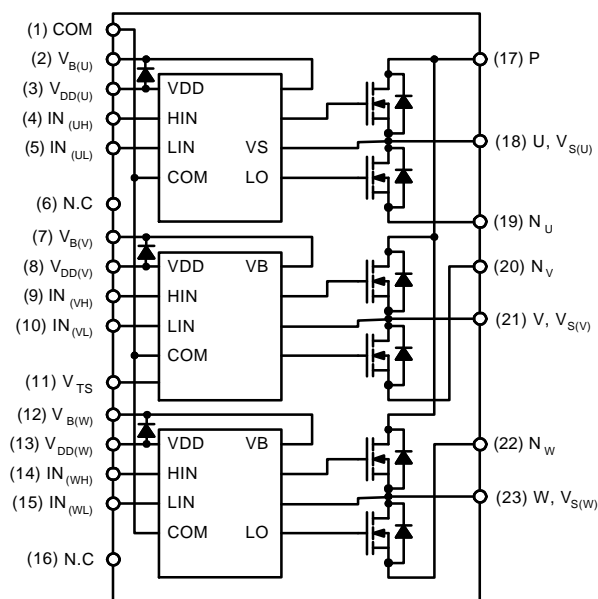

Figure 2. Pin Configuration and Internal Block Diagram (Bottom View)
- Built-in bootstrap diode includes around $15\ \Omega$ resistance characteristic. Please refer to Figure 2.